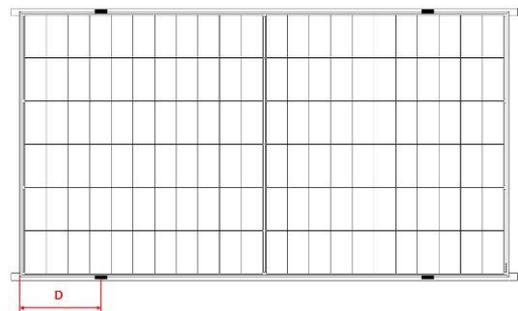

Fig. 3 Rails overlapping the long-side frame
When mounting bifacial PV modules, each module must be secured with a minimum of 4 clamps, as shown in Fig. 3 and 4.
⑦ For the installation method shown in Fig. 3, the module needs to be fixed with professional clamps